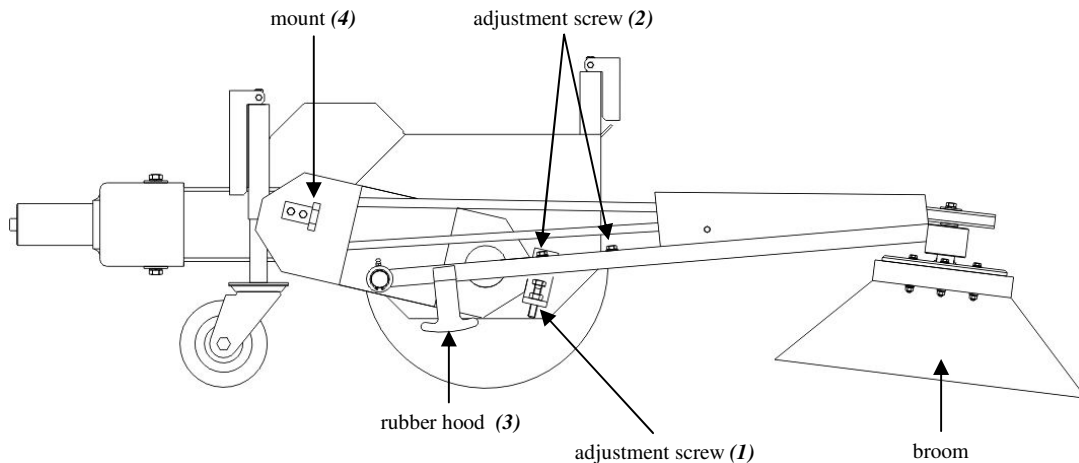

fig. 7: side broom.
- The working height can be adjusted using the adjustment screw – *fig. 7- (1)*.
- The V-belt tension can be adjusted using the adjustment screws (2).
- If the side broom is not used, it must be folded to the upright position and secured in the mount (4) using a rubber hood (3).